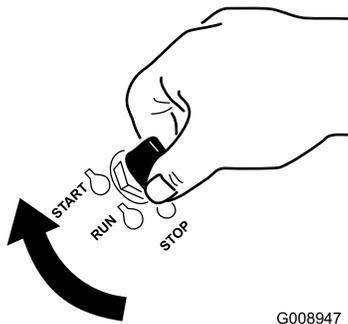

Figure 13
1. Turn the ignition key to the Start position (Figure 13). When the engine starts, release the key.
7. Turn the ignition key to the Start position (Figure 13). When the engines starts, release the key.